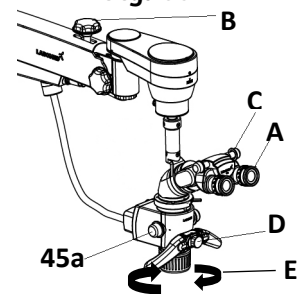

Fig. 45
3. Lock the up & Down movement of suspension arm using locking knob (B) in Fig.45 after focusing of the area of interest.
5. Adjust the eye distance as per IPD (C) scale according to your convenience.
6. Set Both Eye Pieces (A) dioptre to Zero.
7. The illumination is controlled through the control knob (D), Fig.45. Rotate it clockwise or anticlockwise to achieve desired illumination level.